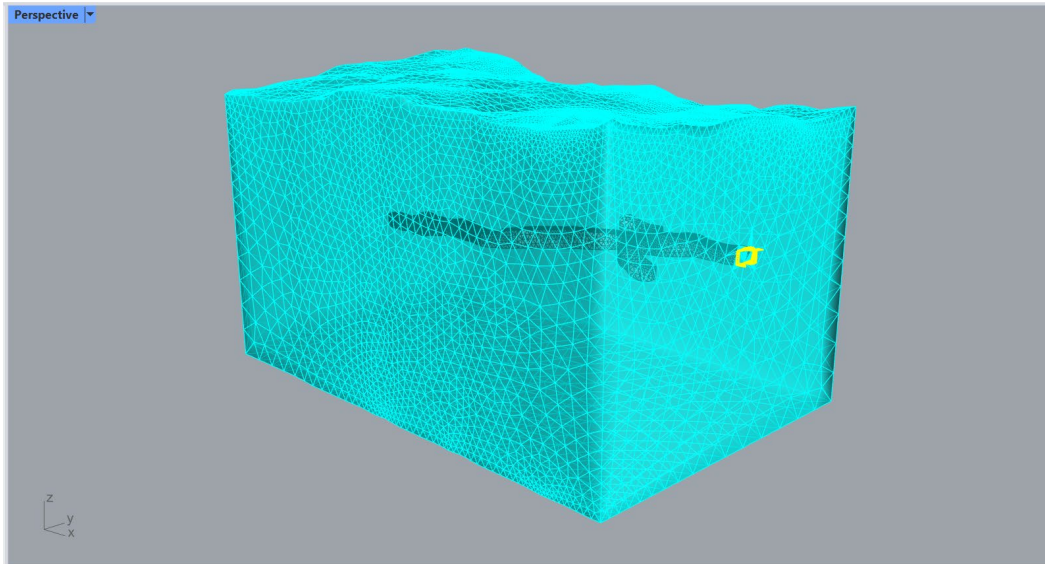

Figure 72: Meshes separated with the GExtract tool (Ghosted view).
19. Select the drift mesh and type **_MeshSplit** command, then select the domain mesh as a cutting object. After that, delete the small, separated piece of the drift mesh highlighted in Figure 72.